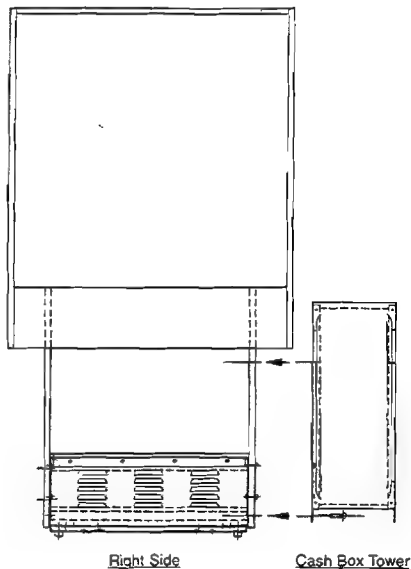

FIGURE 3: RIGHT-SIDE CABINET INSTALLATION
2. Attach the Cash Box Tower to the inner panel of the right-side cabinet (see Figure 3) by lifting up the Cash Box tower and slipping the lower two slotted holes in the tower side over the lower two bolts and split washers on the right-side cabinet. Watch out for the sloping lower edge of the right-side cabinet monitor when lifting and installing the Cash Box Tower. The fender (large) washer stays between the right-side cabinet and the Cash Box Tower. Be sure that the cables retract into either the cabinet or Cash Box Tower without kinking. Do not tighten the bolts yet.